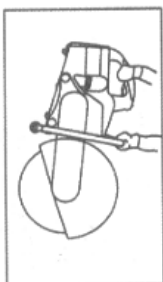

Fig 3
- I. Keep a good balance and secure footing while holding the saw firmly at all times. (Ref. Fig.3)